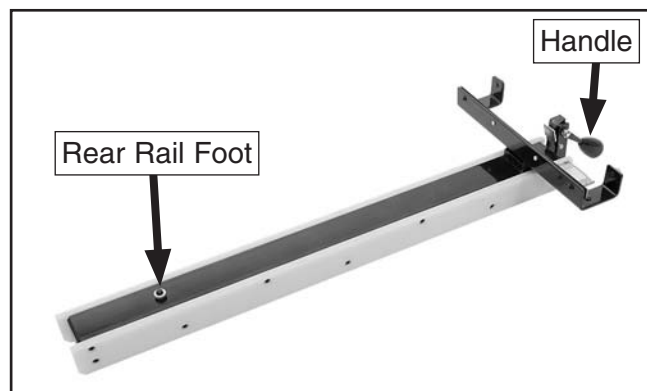

Figure 27. Fence assembled.
1. Attach the fence handle to the fence and thread the rear rail foot into the bottom of the fence (see **Figure 27**).